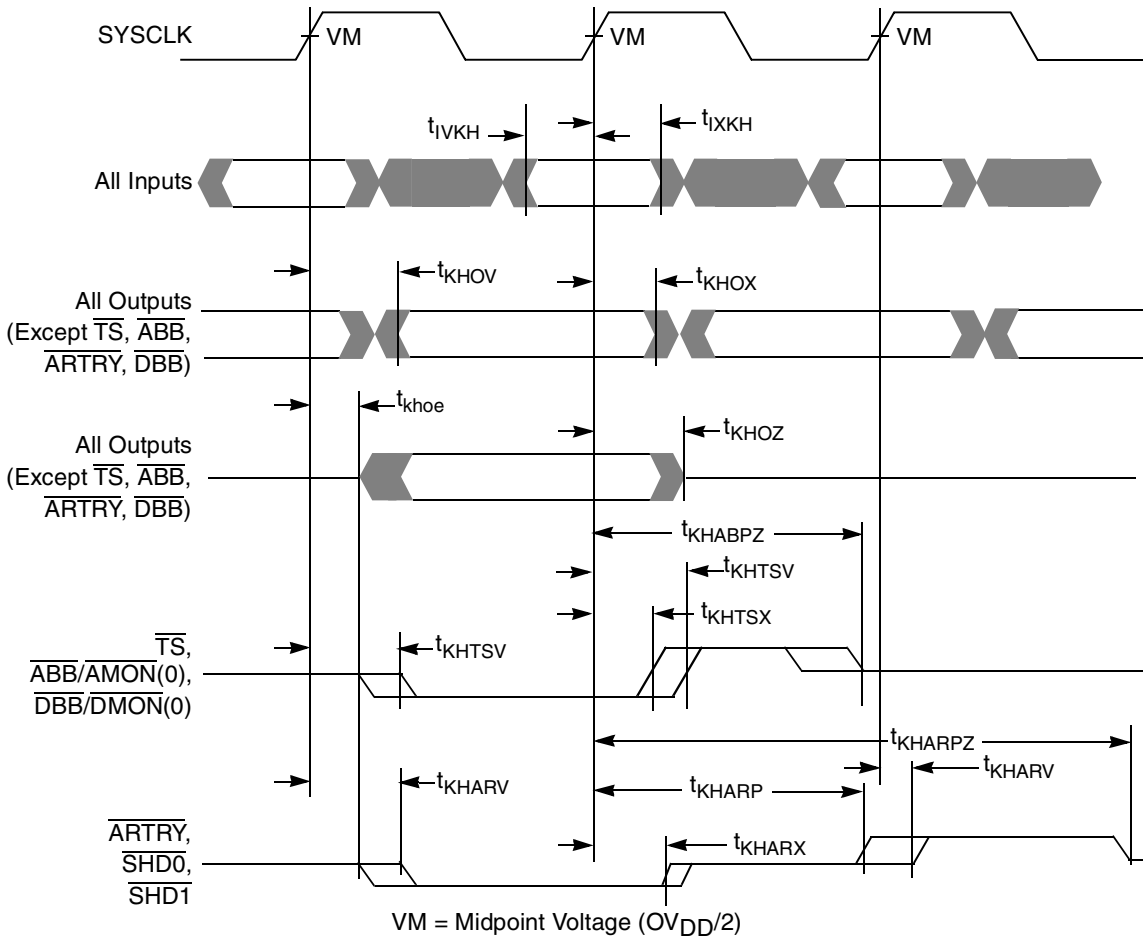

Figure 6. Input/Output Timing Diagram
7. According to the 60x bus protocol, $\overline{\text{ABB}}$ and $\overline{\text{DBB}}$ are driven only by the currently active bus master. They are asserted low then precharged high before returning to high-Z as shown in Figure 6. The nominal precharge width for $\overline{\text{ABB}}$ or $\overline{\text{DBB}}$ is $0.5 \times t_{\text{SYSCLK}}$, that is, less than the minimum t_{SYSCLK} period, to ensure that another master asserting $\overline{\text{ABB}}$, or $\overline{\text{DBB}}$ on the following clock will not contend with the precharge. Output valid and output hold timing is tested for the signal asserted. Output valid time is tested for precharge. The high-Z behavior is guaranteed by design.
8. According to the 60x bus protocol, $\overline{\text{ARTRY}}$ can be driven by multiple bus masters through the clock period immediately following $\overline{\text{AACK}}$. Bus contention is not an issue since any master asserting $\overline{\text{ARTRY}}$ will be driving it low. Any master asserting it low in the first clock following $\overline{\text{AACK}}$ will then go to high-Z for one clock before precharging it high during the second cycle after the assertion of $\overline{\text{AACK}}$. The nominal precharge width for $\overline{\text{ARTRY}}$ is $1.0 t_{\text{SYSCLK}}$; that is, it should be high-Z as shown in Figure 6 before the first opportunity for another master to assert $\overline{\text{ARTRY}}$. Output valid and output hold timing are tested for the signal asserted. Output valid time is tested for precharge. The high-Z behavior is guaranteed by design.
Figure 6 provides the input/output timing diagram for the MPC7410.